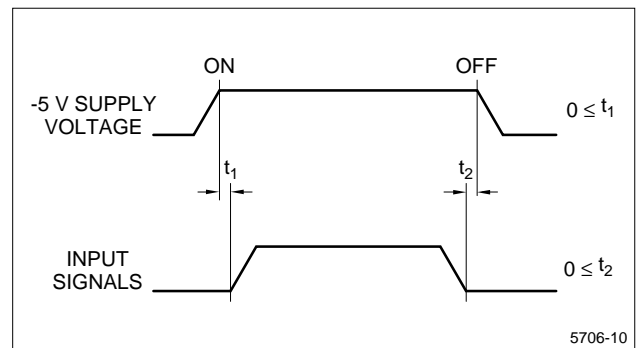

Figure 8. Power ON/OFF Sequency
- Power ON/OFF sequential timing – To prevent the latch-up of the circuit in the module, keep the sequential timing between input signals and supply voltages as shown in Figure 8.